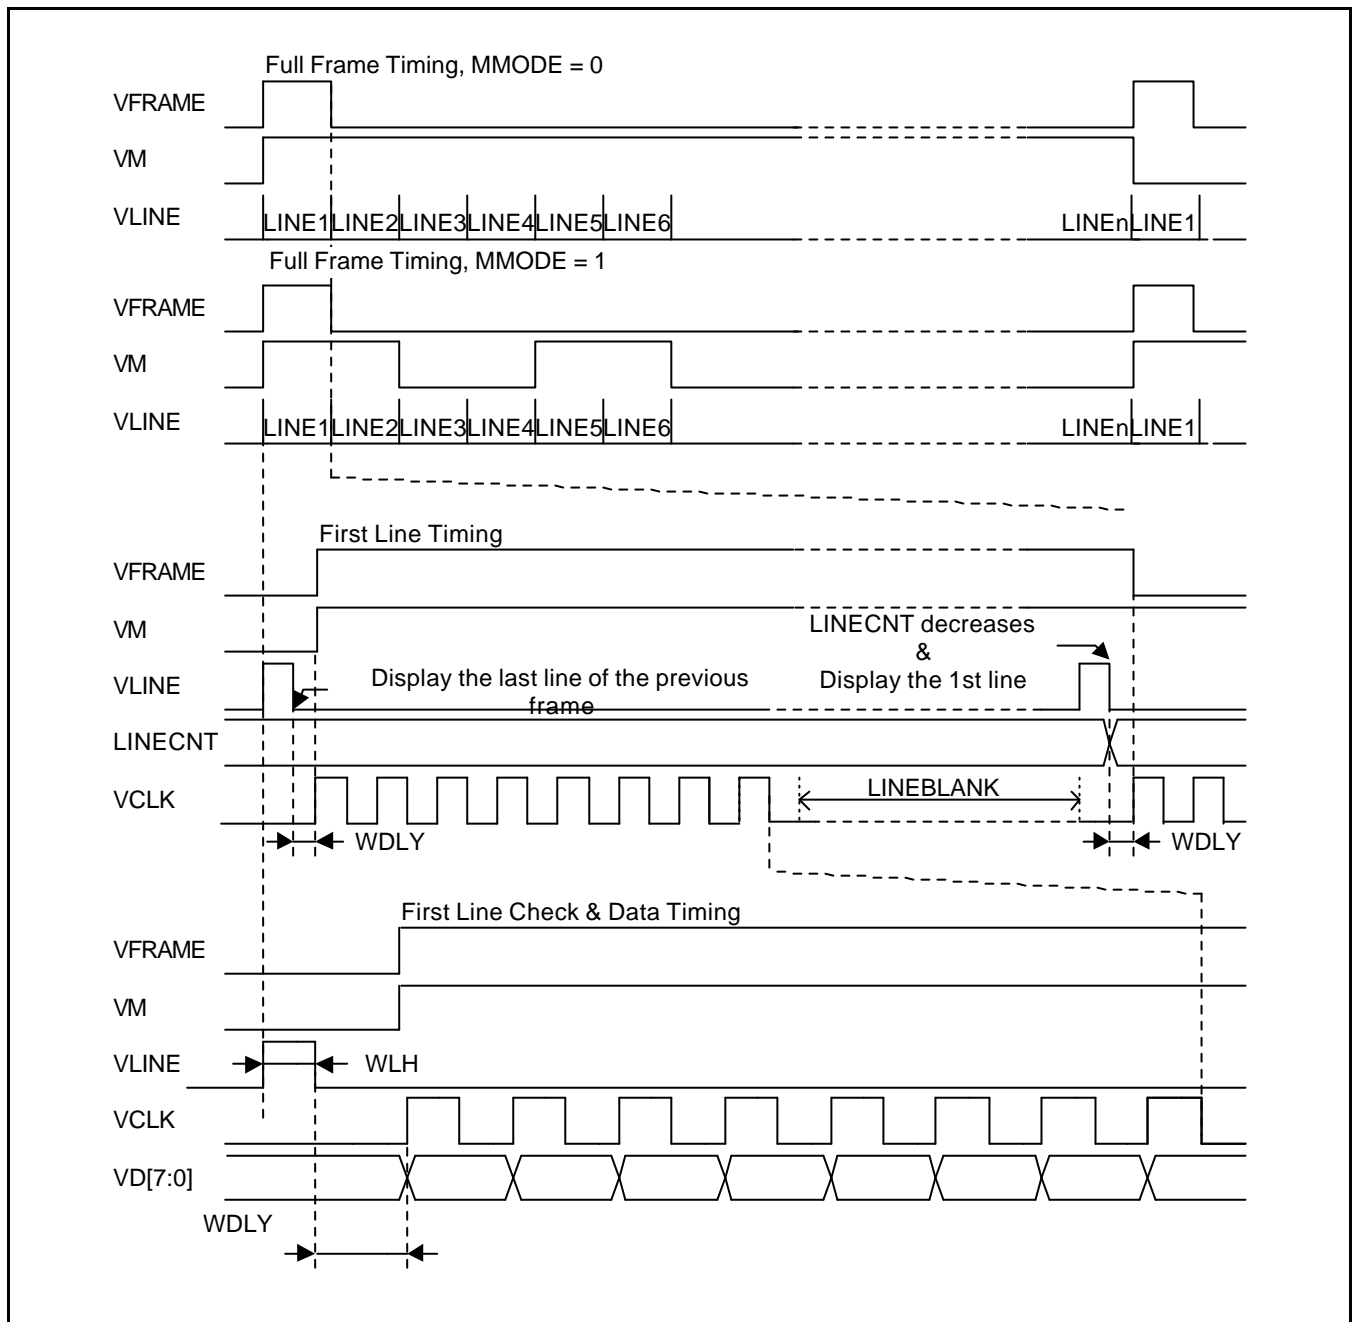

Figure 12-3. 8-bit Single Scan Display Type LCD Timing
- VFRAME:** This is the frame synchronous signal between the LCD controller and LCD driver. It signals the LCD panel of the start of a new frame. The LCD controller asserts VFRAME after a full frame of display as shown in Fig. 12-3.
The VM signal is used by the LCD driver to alternate the polarity of the row and column voltage used to turn the pixel on and off. The toggle rate of VM signal can be controlled by using the MMODE bit of LCDCON 1 register and MVAL[7:0] field of LCDSADDR 2 register. If the MMODE bit is 0, the VM signal is configured to toggle on every frame. If the MMODE bit is 1, the VM signal is configured to toggle on the every number of VLINE signal by the MVAL[7:0] value. Figure 12-3 shows an example for MMODE=0 and for MMODE=1 with the value of MVAL[7:0]=0x2. When MMODE=1, the VM rate is related to MVAL[7:0], as shown below:
Figure 12-3 shows the timing requirements for the LCD driver interface.